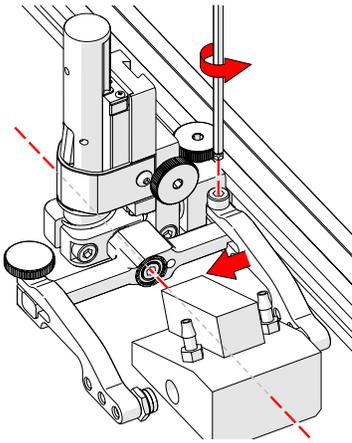

Fig. 77 - Adjust inner arm
4. Position the wedge on the inner probe holder arm (Fig. 77).
TIP: The probe holder yoke can accommodate many different probe and wedge sizes of varying widths. It is best to centre the wedge with the yoke's pivot axis. This can reduce wedge 'rocking' when scanning. Position the inner probe holder arm accordingly (Fig. 77) using the 3 mm hex driver (Fig. 18).